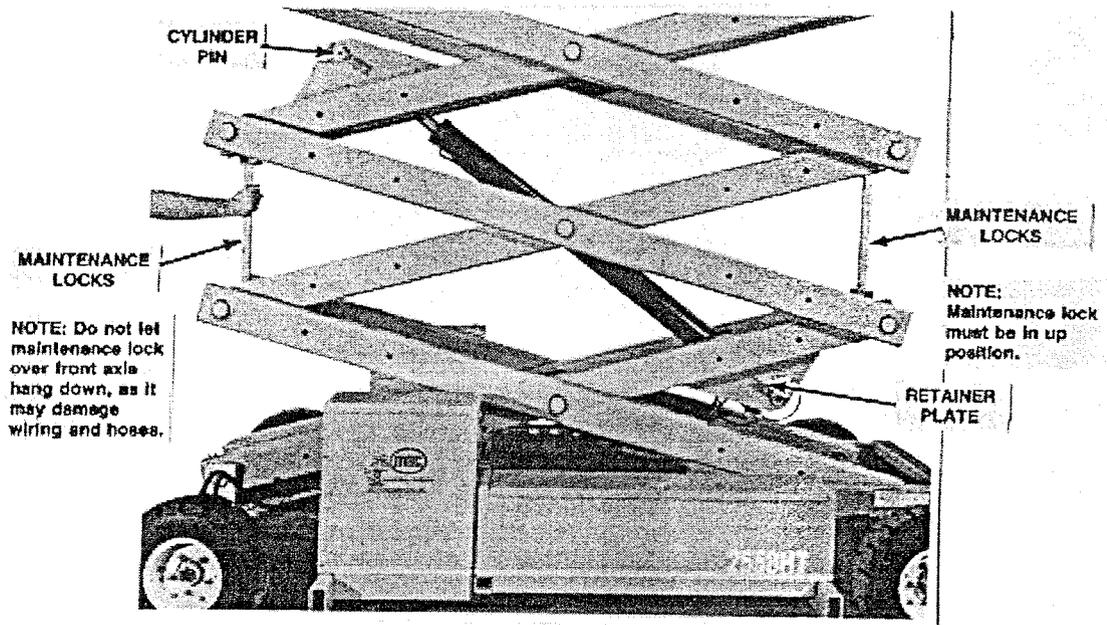

FIG. 1-15 Removing Lift Cylinder Pins and Retainers.
- b. Engage maintenance locks (Figure 1-15).